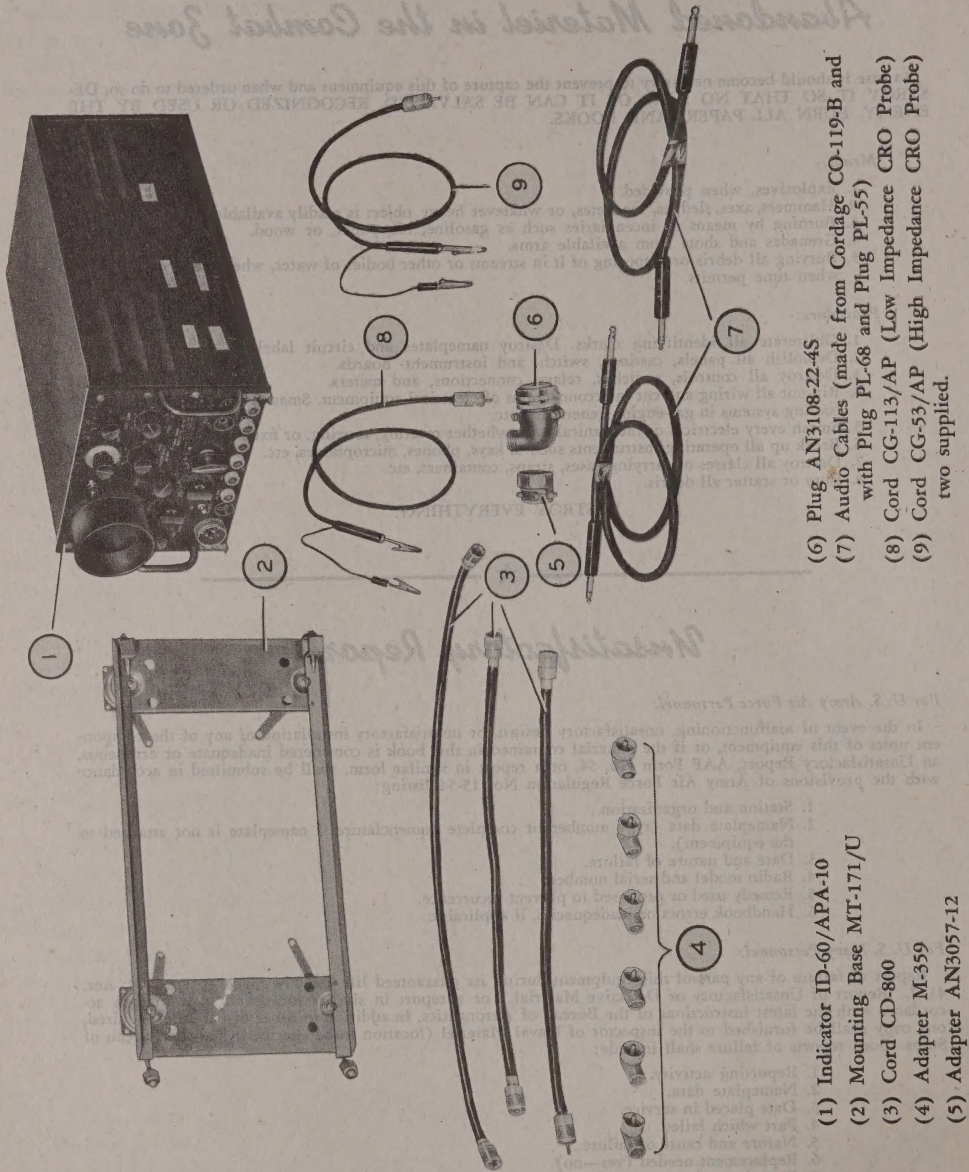
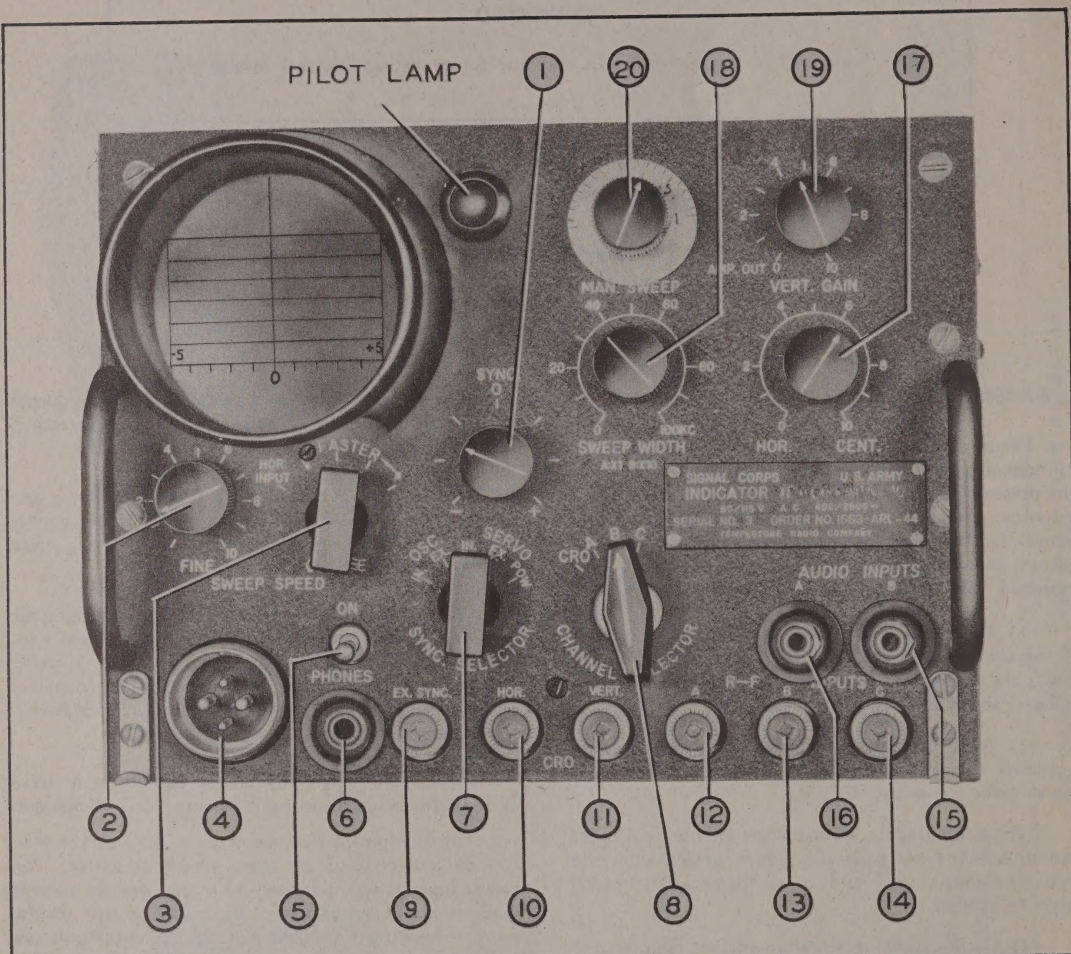

Figure 1-1. Panoramic Adapter AN/APA-10
Figure 1-2. Indicator ID-60/APA-10—Panel View
a. Panoramic Adapter AN/APA-10 is an airborne equipment which, when used with certain radio receivers, presents visually and aurally a portion of the radio spectrum. (See fig. 1-1.) By the use of this equipment signals can be discovered and identified, and their frequency, strength, and type of modulation can be determined. There are four types of presentation:
(1) Panoramic presentation provides a picture of all signals present within a band of frequencies, and shows the nature of each signal, its frequency, and its relative strength.
(2) Aural presentation enables an operator to tune a receiver to an exact signal frequency and to hear coding or voice modulated signals.
(3) Oscillographic presentation enables an operator to examine one particular signal, to determine the type modulation used and to see any coding which might be present.
(4) Oscilloscopic presentation enables the operator to use this instrument as an ordinary oscilloscope in testing other devices. (See fig. 1-2.)
Panoramic Adapter AN/APA-10 is made up of seven sub-assemblies each mounted on its own chassis, and of plug-in construction. (See figs. 1-3 and 1-4.) Connections are made to the main chassis by means of banana pin jacks. For maintenance purposes, a defective chassis can be quickly replaced by a good one and it is not often necessary to send the entire unit to a repair depot. The entire assembly is contained in a Standard Aircraft Radio Case, SARC B1-D, and is mounted on Mounting Base MT-171/U. Controls and the screen of the cathode ray tube are on the front panel as shown in figure 1-2.